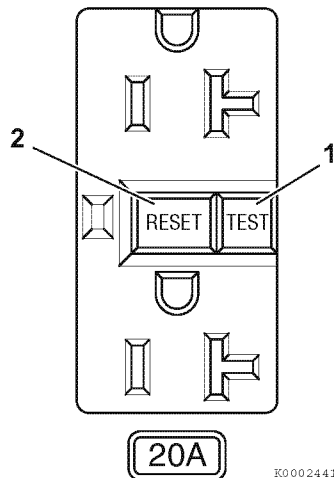

Figure 42
1. To test the GFCI outlet press the TEST button (1, **Figure 42**).
2. The RESET button (2, **Figure 42**) should pop out. If the RESET button does not pop out, notify your YANMAR dealer or distributor. Do not use the generator until this condition is fixed.